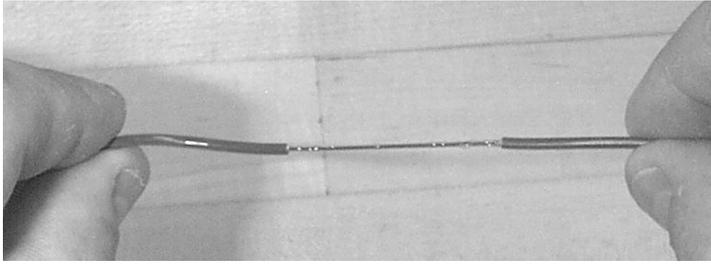

Figure 14 – Remove the buffer tube from the fibers.
4.15 Remove the buffer tube with steady pulling force to expose the fibers (Figure 14). When removing a long length of tube it is recommended to remove the tube in 14 to 18 inch sections.